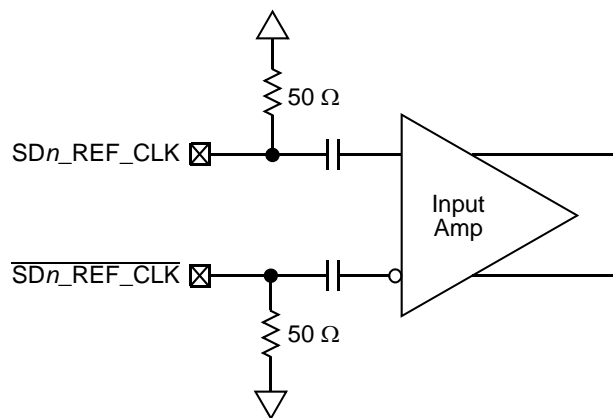

Figure 23. Receiver of SerDes Reference Clocks
- The SD_REF_CLK and $\overline{\text{SD_REF_CLK}}$ are internally AC-coupled differential inputs as shown in Figure 23. Each differential clock input (SD_REF_CLK or $\overline{\text{SD_REF_CLK}}$) has a 50- Ω termination to XCOREV_{SS} followed by on-chip AC coupling.